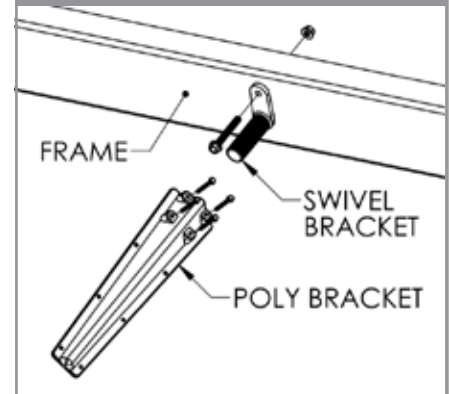

FIGURE 8
- Place four 5/16" x 3" bolts through the (10001464) poly bracket and the (10001485) backing block to clamp the (10001476) swivel. (See Figure 8)